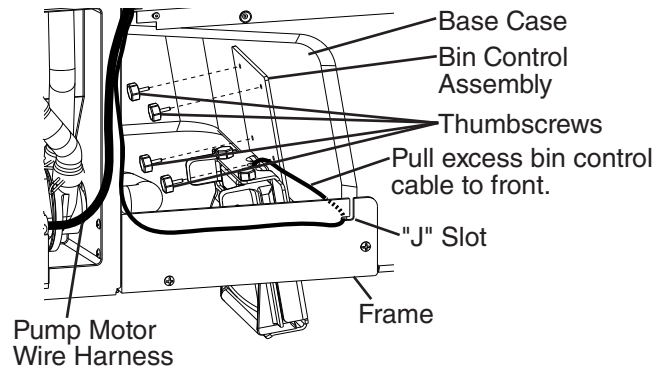

Fig. 4
- 3) Remove the 4 thumbscrews from the right side of the base case, then attach the bin control assembly to the icemaker using the 4 thumbscrews. See Fig. 4.